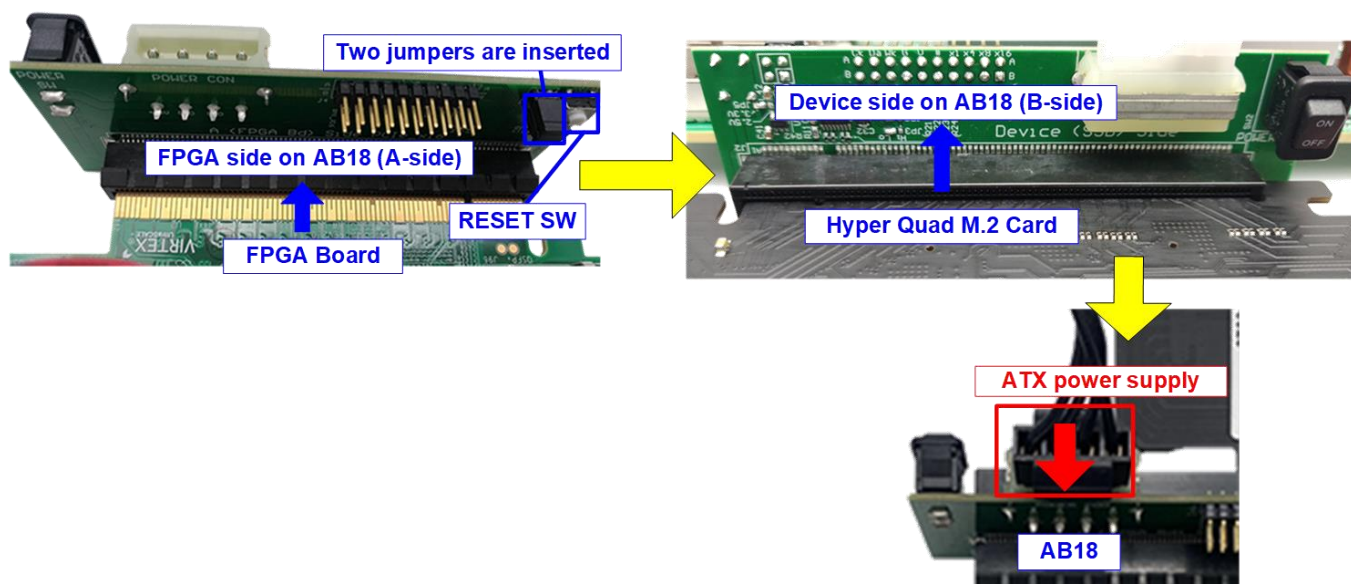

Figure 2-3 AB18, Quad M.2 Card, and FPGA board connection
- ii. Confirm that two mini jumpers are inserted at J5 connector on AB18. After that, connect FPGA Side (A-side) on AB18 to PCIe connector on FPGA board and connect Hyper Quad M.2 NVMe SSD Card to device side (B-Side) on AB18, as shown in Figure 2-3.